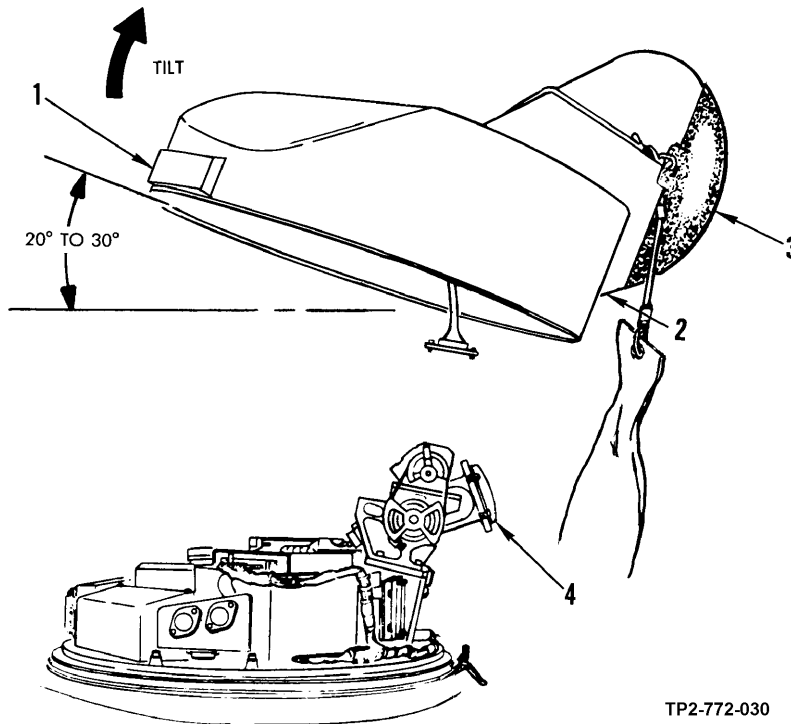

Figure 3-24. Shroud Tilting Prior to Installation on PNVS NSA
Point (1) in figure 3-24 refers to bottom surface of shroud balance weight.
- (a) Grasp shroud at points (1 and 2, figure 3-24), ensuring that you do not apply pressure to window cover assembly (3).
- (b) Tilt shroud balance weight (1) up 20 to 30 degrees.
- (c) Position tilted shroud directly above PNVS NSA with shroud window cover (3) directly above elevation mirror (4).